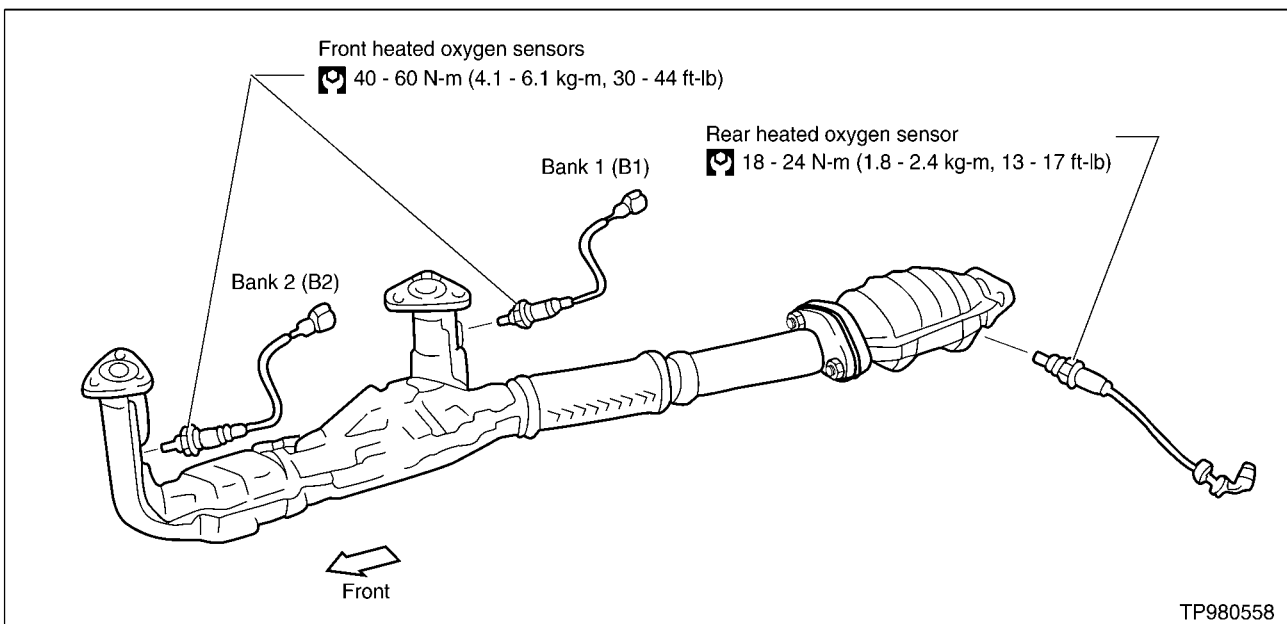

Figure 2
- A. Remove the two front (B1 & B2) and one rear oxygen sensors from the vehicle's exhaust system (see Figure 2).
- B. Install new oxygen sensors to the exhaust system (see Figure 2).